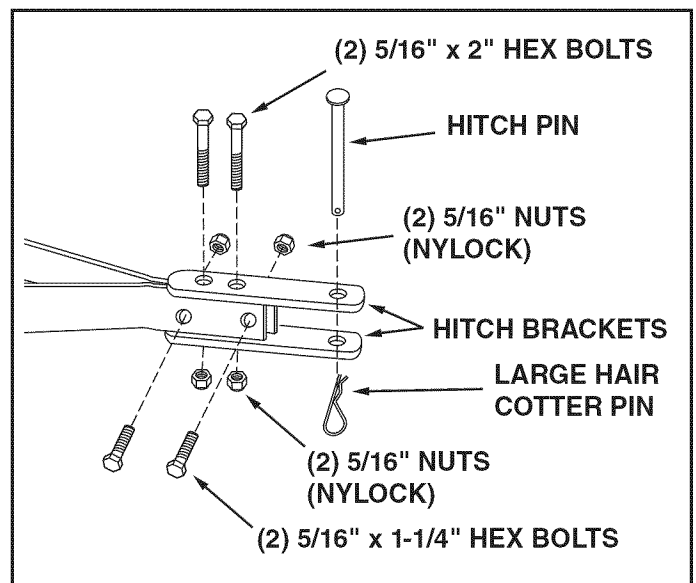

FIGURE 8
- Assemble the ends of the hitch mount arms together using two 5/16" x 1-1/4" hex bolts and two 5/16" nylock nuts as shown in figure 8. **Do not tighten yet.**
- Assemble the hitch brackets to the hitch mount arms using two 5/16" x 2" hex bolts and two 5/16" nylock nuts as shown in figure 8. **Do not tighten yet.**
- **Tighten** the bolts assembled in figure 8.